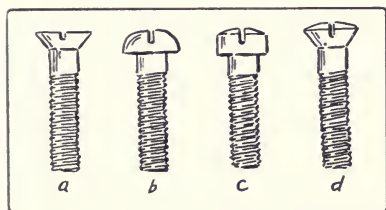

Fig. 231. Machine-screws. a. Flat-head. b. Round-head. c. Fillister-head. d. Oval-countersunk-head.
*Machine-screws*, Fig. 231, are similar to stove-bolts, but are accurately cut and are measured with a screw-gage. The varieties are, *a*, flat-head, *b*, round-head, *c*, fillister-head, *d*, oval-countersunk-head, all with slots for screwdriver.